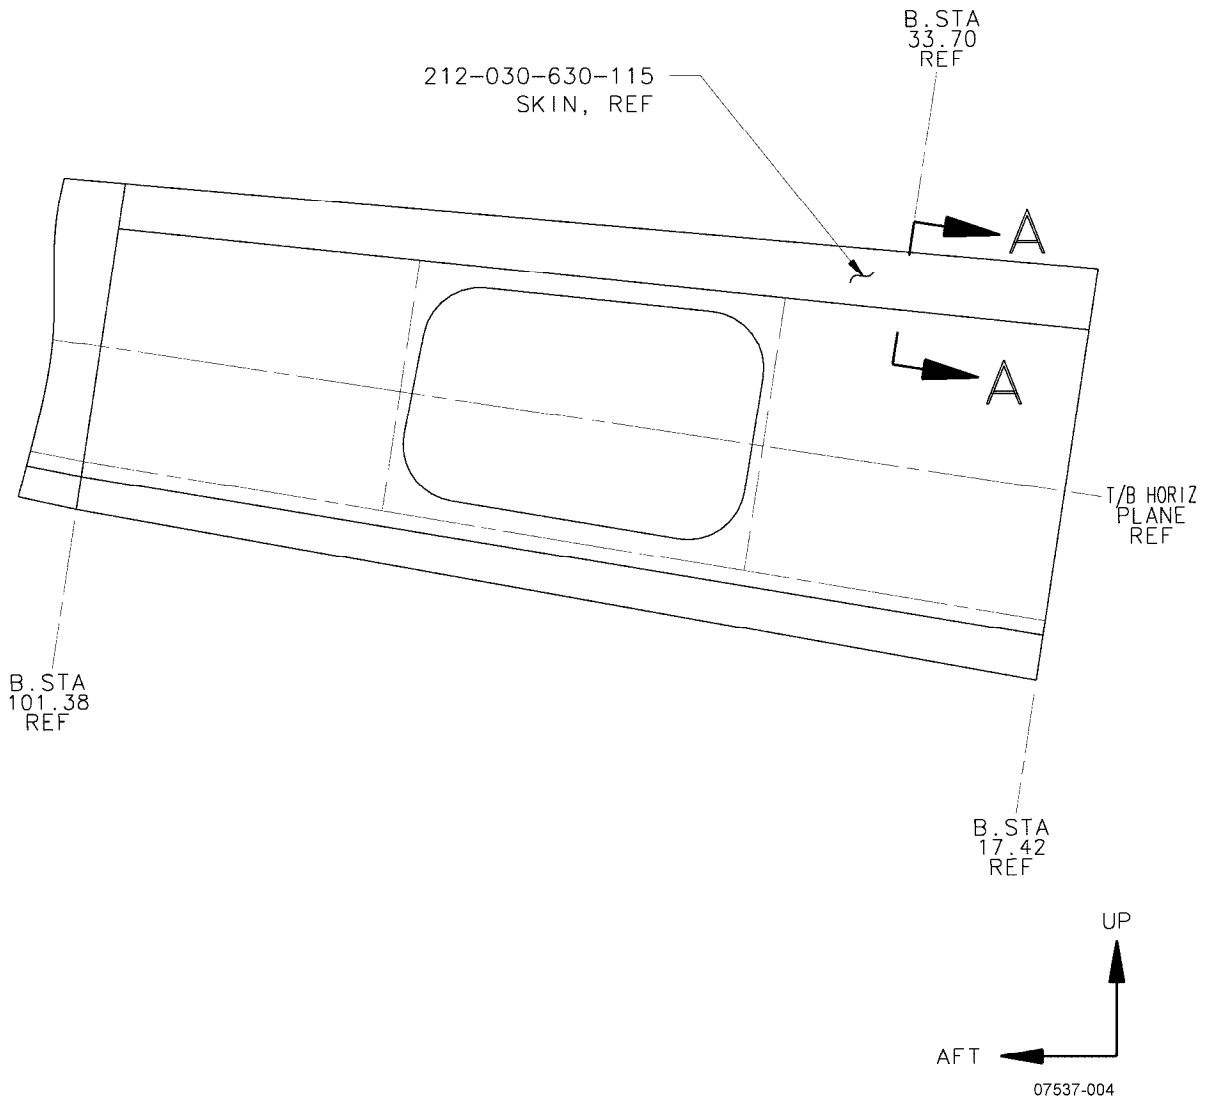

Figure 1
1. Remove tailboom from helicopter and place in support cradles. The top of the forward bulkhead and the skin to longeron attachment must be accessible. (See Figure 1). Remove drive train components from the top of the baggage compartment. Remove drive shaft cover and support angles.